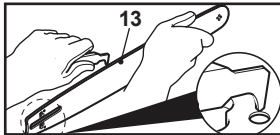

Fig. 21
3. Check the drive sprocket (5). If it is worn or damaged due to strain, have it replaced by an authorised service agent or a similarly qualified person.
4. Clear residue from the rails on the guide bar (16) by using a screwdriver, putty knife, wire brush or other similar tool. This will keep the oil passages open to provide proper lubrication to the guide bar (16) and saw chain (15) (Fig. 21).